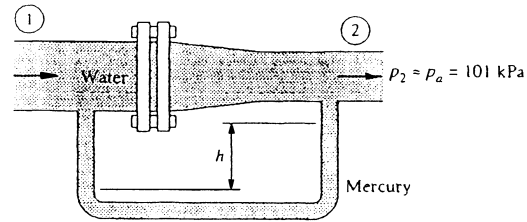

Fig. P3.54
**3.54** For the pipe-flow reducing section of Fig. P3.54,  $D_1 = 8$  cm,  $D_2 = 5$  cm, and  $p_2 = 1$  atm. All fluids are at  $20^\circ\text{C}$ . If  $V_1 = 5$  m/s and the manometer reading is  $h = 58$  cm, estimate the total horizontal force resisted by the flange bolts.